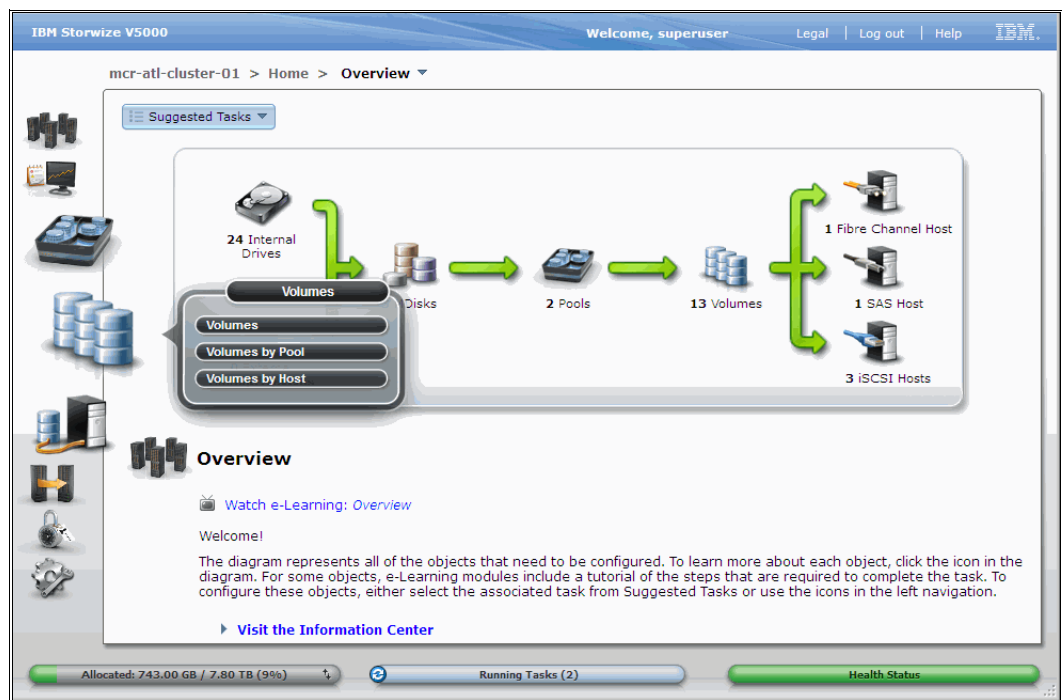

Figure 5-1 GUI Volumes option
1. Open the All Volumes window of the IBM Storwize V5000 GUI to start the process of creating volumes, as shown in Figure 5-1.